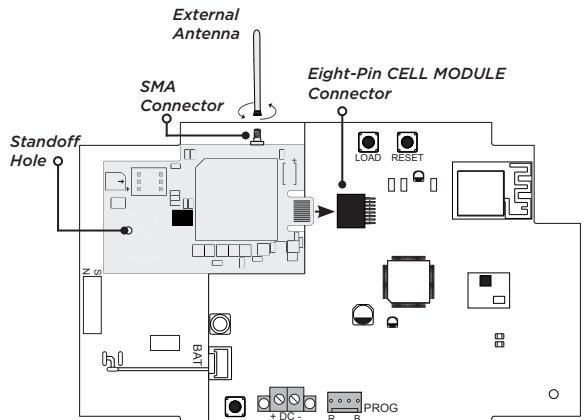

Figure 2: Installing the 265LTE-V on the XTLplus
3. Align the standoff hole in the 265LTE-V with the standoff on the XTLplus, and then snap it into place. See Figure 2.